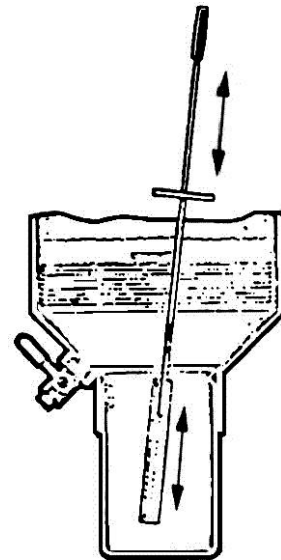

FIGURE 5
3. **WHEN AND IF STIR SIGNAL COMES ON,** Use plugging tool to stir cooking oil vigorously. Plug to bottom solidified cooking oil (**FIG. 5**). Repeat above procedure each time **STIR** signal comes on.